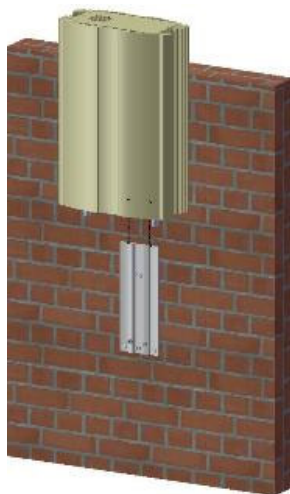

Figure 3-3
- Slide the repeater on the lower bracket from top (Figure 3-3, 3-4).